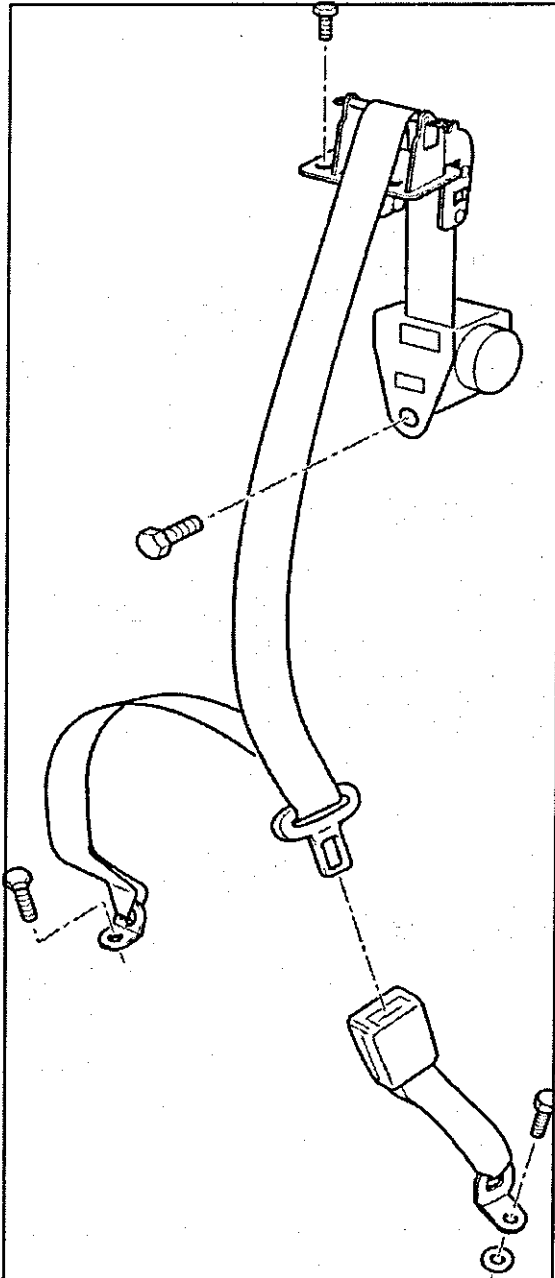

Figure 4
7. Feed the seat belt webbing through the new bracket (part number 3W5857859B) before positioning and engaging the bracket onto the rear parcel shelf (see Figure 4)